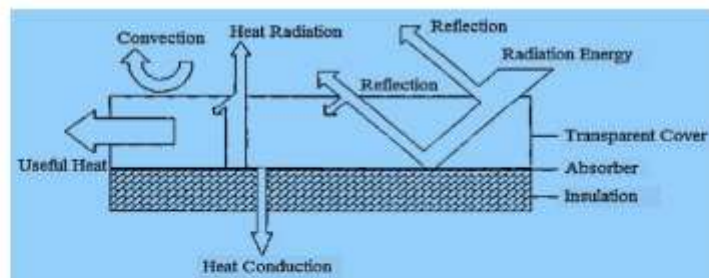

Figure 1: Typical Diagram of Solar Air Heater (SAH)
Due to the limitations on conventional energy sources, the researcher are attaining to renewable energies in recent decades. The 3.85×10^{24} Joules of solar energy per year is absorbed by the earth elements like atmosphere, oceans and masses. This represented high energy consumption in one hour than in one year of world in 2002. The solar energy reaching to the earth's surface is so high that nearly in year it is twice than that of non-renewable sources of earth. The applications using solar energy are abundant and safe. The solar techniques are usually classified into two categories, passive and active. The passive systems includes designing the systems according to natural circulation of thermal system. While the active solar technique uses panels, blowers to obtained useful output from solar energy. Solar Air Heaters (SAH) are the solar systems that utilize solar radiation for heating of atmospheric air to increase its temperature. Such technique is useful in winter season to increase the temperature of room or building space. These systems are simple and constructed inexpensively. Generally, the SAH system consist of transparent cover made of glass, absorber plate having good absorptivity, and insulating material as shown in Figure 1. The air enters in SAH through a gap between the transparent cover and absorber plate. The Solar Radiations (SR) are absorbed by the absorber plate and heat transferred to the air flowing through the channel increasing the temperature of air. The heated air now can be useful in many applications including agricultural purposes, room heating in winter season and many purposes.